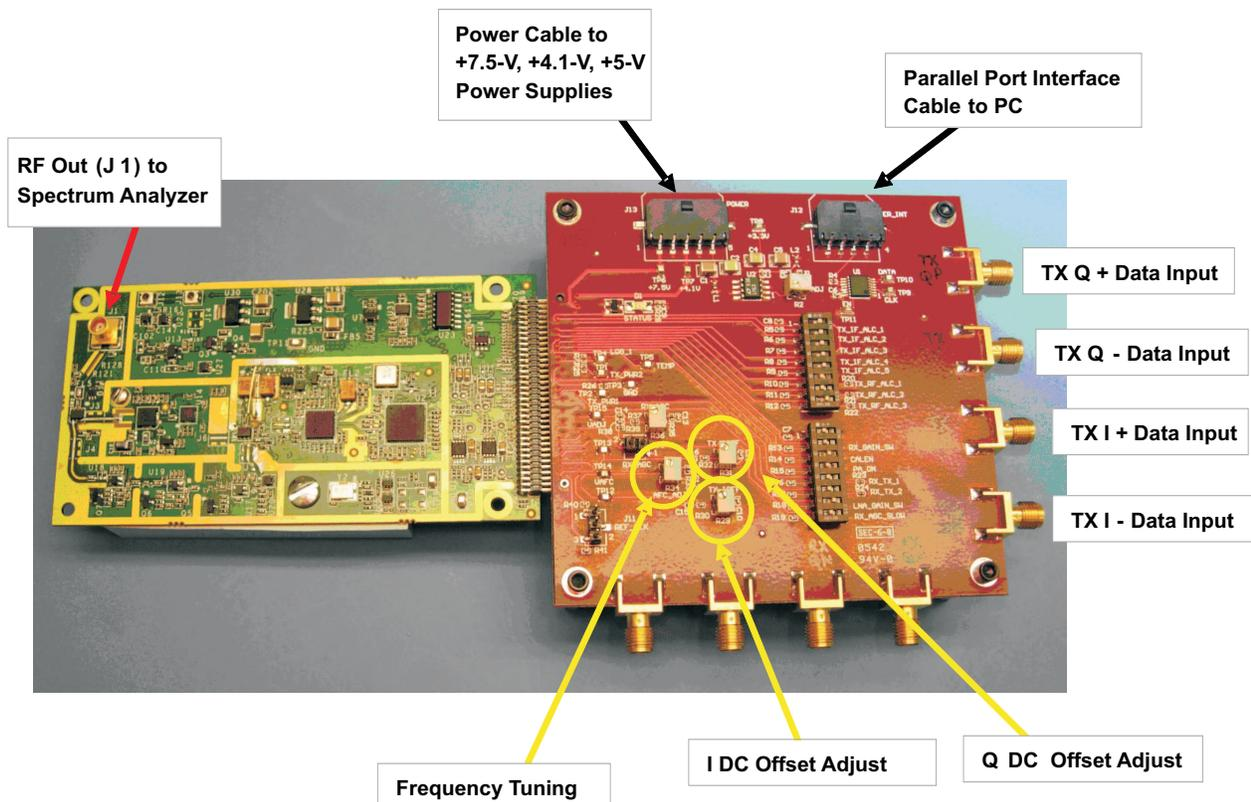
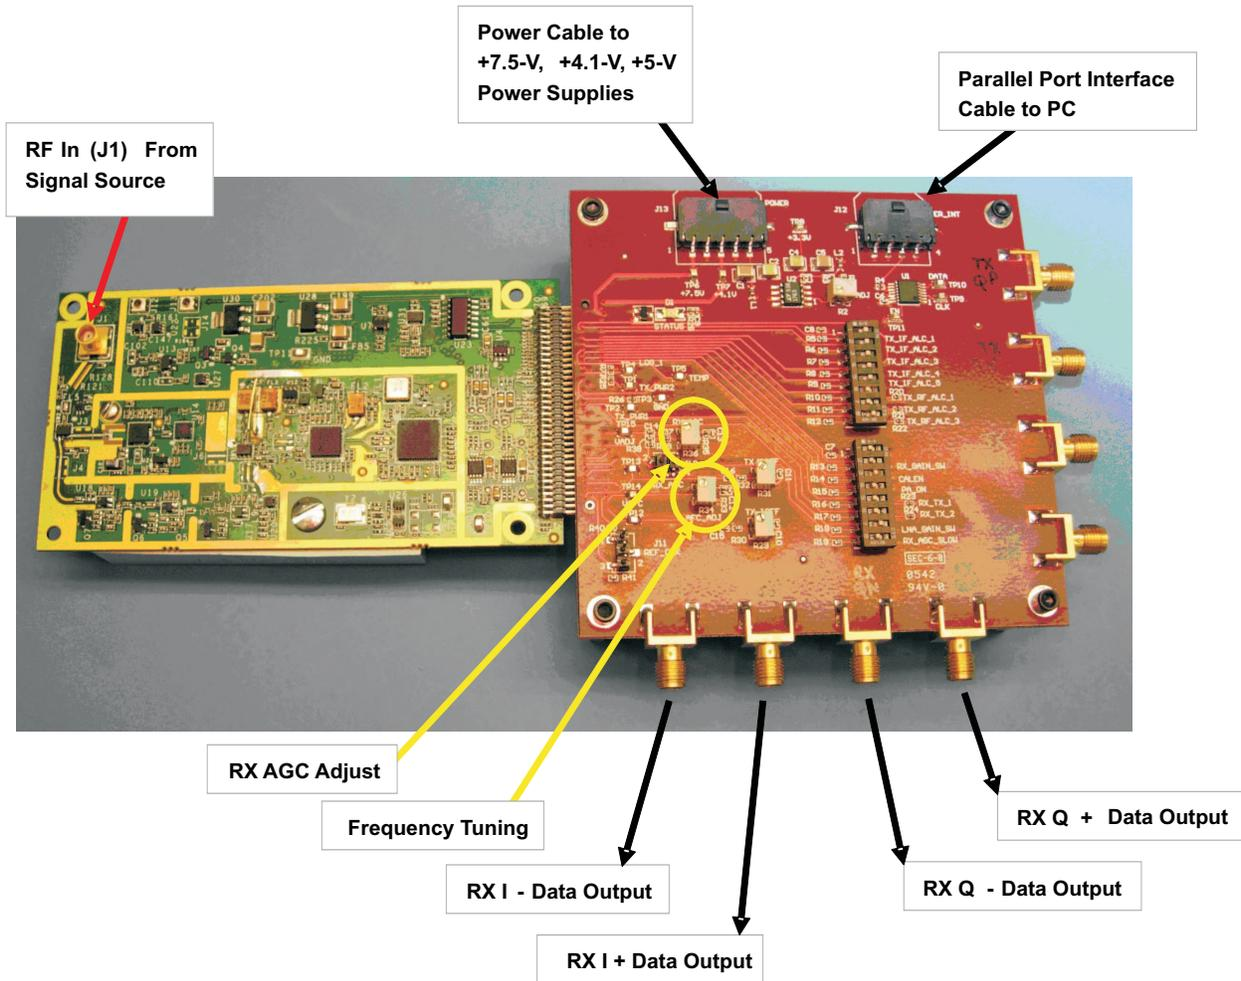

Figure 1. Connections for TX Operation
Figure 2. Connections for RX Operation
1. Connect the RF board and adapter board together via the 70-pin I/O connector as shown in Figure 1. Connect power, serial interface, TX I/Q baseband signals, and RF output as shown in Figure 1.
1. Connect the RF board and adapter board together via the 70-pin I/O connector as shown in Figure 2. Connect power, serial interface, RX I/Q baseband signals, and RF input as shown in Figure 1.